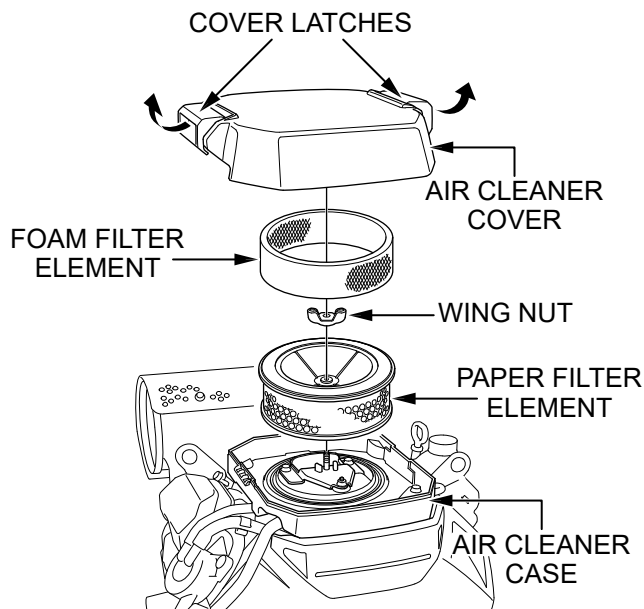

Figure 30. Engine Air Cleaner
The engine air cleaners are equipped with an outer, **foam filter element** and an inner, **paper filter element** (Figure 30). Remove the **air cleaner cover** and inspect the filter elements. Clean or replace dirty filter elements. **ALWAYS** replace damaged filter elements.
2. Place the **air cleaner cover latches** in the unlocked position, then remove the **air cleaner cover** (Figure 30).
3. Remove the **wing nut** from the **paper filter element** (Figure 30).
4. Remove the **paper filter element** and **foam filter element** from the **air cleaner case** (Figure 30).
7. To clean the paper filter element as shown in Figure 30, tap the filter element several times on a hard surface to remove dirt, or blow compressed air, not to exceed 30 psi (207 kPa, 2.1 kgf/cm²), through the filter element from the inside out.